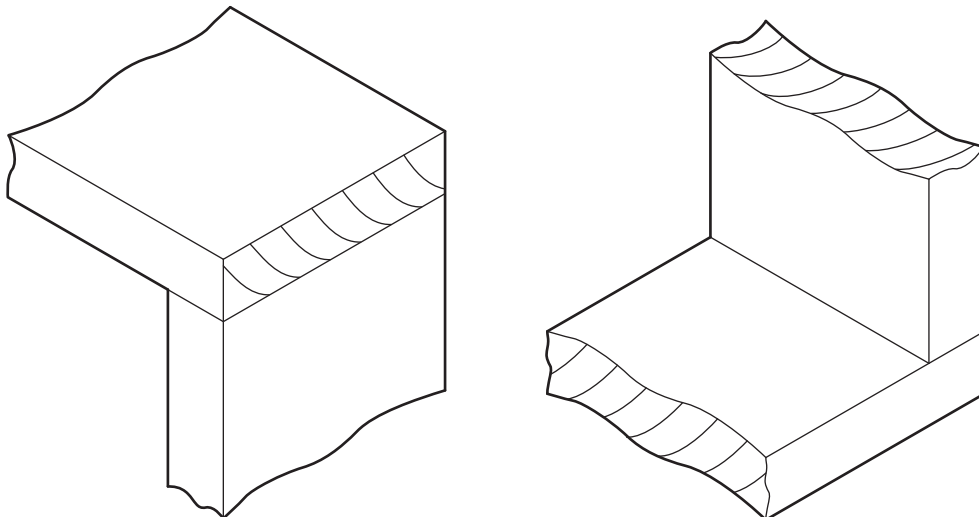

Fig. 2.1
- 2 Fig. 2.1 shows views of a butt joint using softwood 60 mm wide × 15 mm thick.
Add sketches and notes to Fig. 2.1 to show how the butt joint could be strengthened.